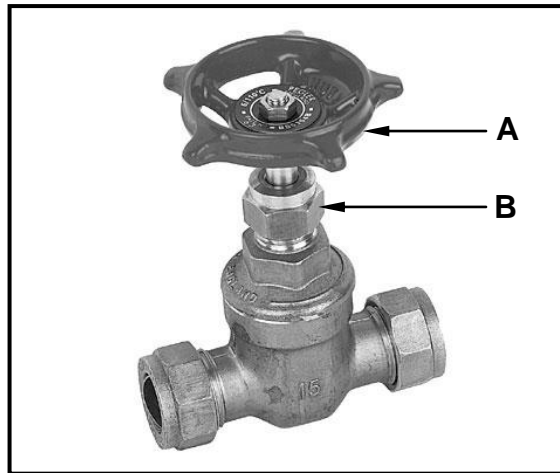

FIGURE 4.4
- 4.4 FIGURE 4.4 below shows a picture of a valve used in the cold-water supply of a house. Study the picture and answer the questions that follow.
- 4.4.1 Identify the valve in FIGURE 4.4. (1)
- 4.4.2 Identify parts **A** and **B** in FIGURE 4.4. (2)
- 4.4.3 Recommend ONE place where the valve in FIGURE 4.4 can be used. (1)